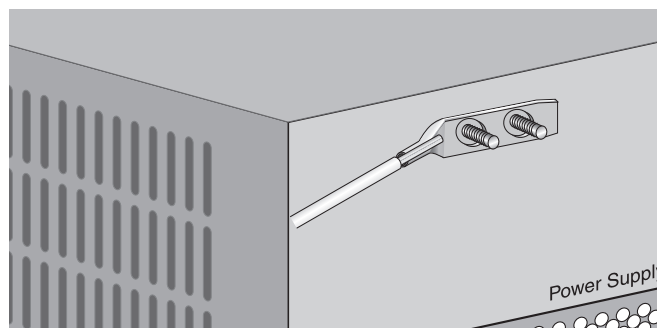

Figure 4. Position of the Ground Lug on the Studs
2. Place the ground lug on the two studs located on the rear panel of the MCR12 chassis, as shown in Figure 4.